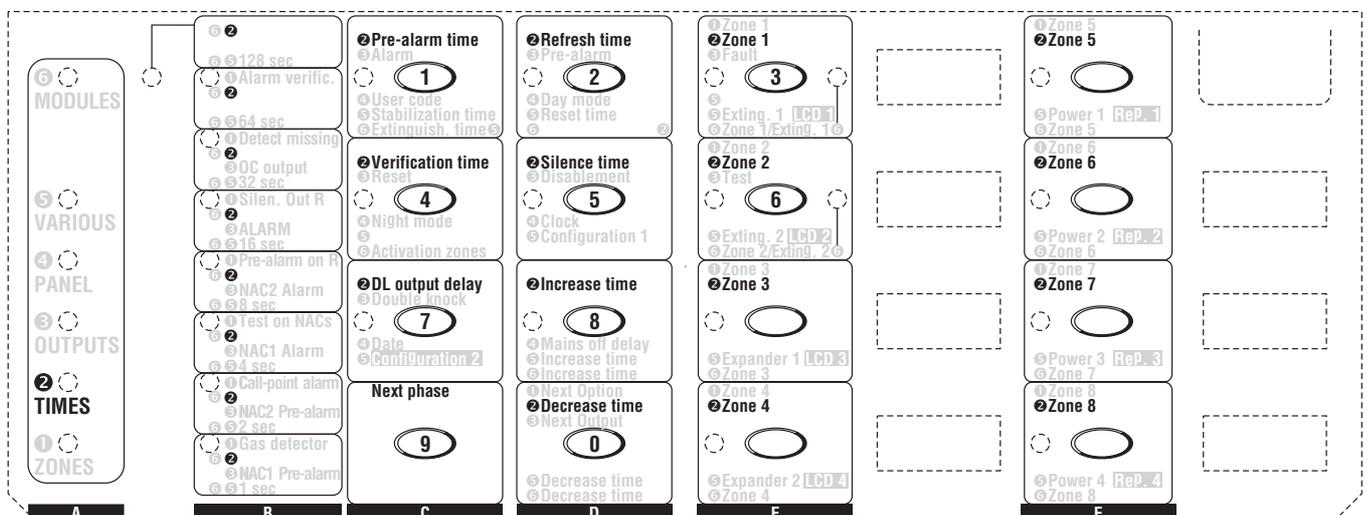

Figure 30 The “Times” Programming Phase
The **TIMES** LED will blink to indicate that the system is ready to start the programming procedure. During this phase, the keys and LEDs will operate in accordance with the options preceded by ❷ in the panes on the Programming Overlay, see Figure 30.